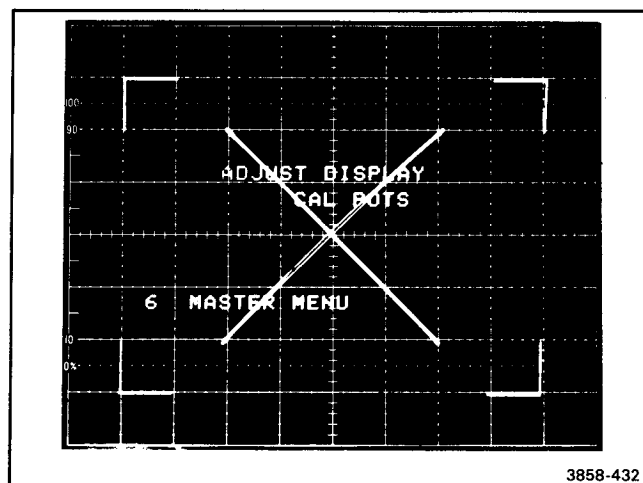

Figure 4-6. Display Adjust Pattern.
- While observing the DISPLAY CAL PATTERN displayed on the oscilloscope mainframe crt, use screwdriver to set VERT GAIN, VERT CTR, HORIZ GAIN and HORIZ CTR controls to place corner markers of DISPLAY CAL PATTERN on center 6 × 8 divisions of graticule, as shown in Figure 4-6.
- Set VECT LIN adjustment for minimum trace separation of the diagonal lines on DISPLAY CAL PATTERN as shown in Figure 4-6.
- f. While observing display cal pattern displayed on oscilloscope mainframe crt, set VERT GAIN, VERT CTR, HORIZ GAIN, and HORIZ CTR controls to place corner markers of displayed adjustment pattern on center 6 × 8 divisions of graticule, as shown in Figure 4-6.
- g. Set VECT LIN control for minimum trace separation of diagonal lines on displayed adjustment pattern as shown in Figure 4-6.